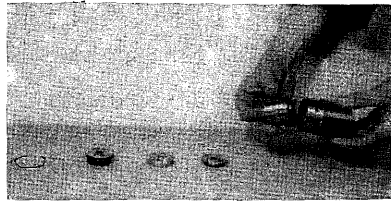

Fig. 8
- 3) Put bottom bearing pressure piece 151 with inserted helical spring 152 into bottom bearing threaded piece 153 (Fig. 8).